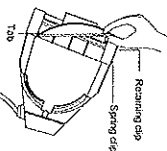

Figure 3
3. Hold the lens by the edge, and position it so the convex side faces the back of the fixture (Figure 3). **Note:** Installing the lens with the convex side out will not impair the optics, but it will make removing the lens difficult.